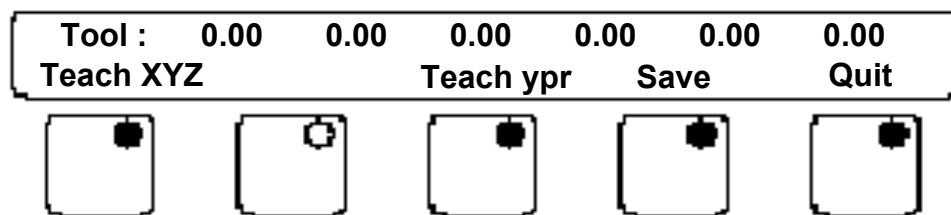

Figure 4-24. Tool Offset Utility Menu Display
To teach a tool transformation, open a tool record and press *Teach Tool*. The menu shown in Figure 4-24 will be displayed on the pendant.
1. Press the "TEACH YPR" soft key (see Figure 4-24).